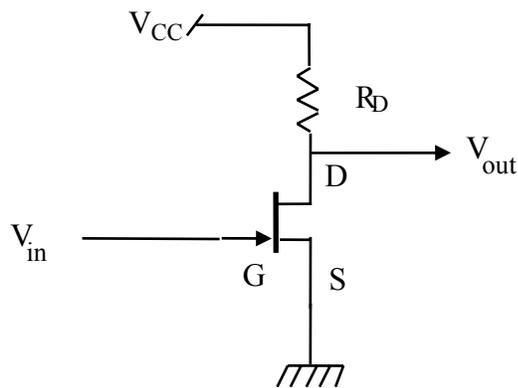

Figure 8.2 Common Source Amplifier Stage
A JFET common-source amplifier stage is shown in Fig. 8.2. To keep things simple we are supposing that the input signal has a dc value of 0 V, so the desired quiescent gate voltage ($V_{GS} = 0$) is achieved without the need for a dc blocking capacitor and a voltage divider like we used for our bipolar common-emitter amplifier. A small change in the input voltage δV_{in} causes a change in the drain current equal to $g_{fs} \cdot \delta V_{in}$, and this current dropped across the drain resistor R_D causes an output voltage $\delta V_{out} = -R_D \cdot g_{fs} \cdot \delta V_{in}$. Thus, the voltage gain of this stage is simply $G = -R_D \cdot g_{fs}$. For typical values of R_D and g_{fs} the gain of a single JFET common-source stage is in the range 5-20, much less than the maximum gain possible with a bipolar common emitter stage.
1. Consider the common-source amplifier circuit of Fig. 8.2. Suppose you build this circuit with the JFET used to generate the output characteristics shown in the 2N4416A data sheet, lower right plot on page 7.3. If we use $V_{CC} = 9\text{ V}$, and we want $V_{DS} = 3\text{ V}$ at $V_{GS} = 0$, what value of R_D should we use? What will the value of I_D be? What value of R_D should we use if V_{CC} is 18V, and what will I_D be in this case?
Construct the common-source amplifier shown in Fig. 8.2. Use a 9V battery for the drain voltage source. First, measure the battery voltage. Then, compute, using your characteristic curves, the value of R_D that will give $V_{DS} = +3V$ at $V_{GS} = 0$, and also predict the small-signal voltage gain. If your predicted gain is less than 5, increase your power supply voltage by using two 9 V batteries in series and compute R_D and the gain again. Find a metal-film resistor close to your desired value of R_D (or use several in series) and measure the resulting quiescent voltage V_{DS} with the gate grounded. Is the value of V_{DS} you observe consistent with your measured characteristics?